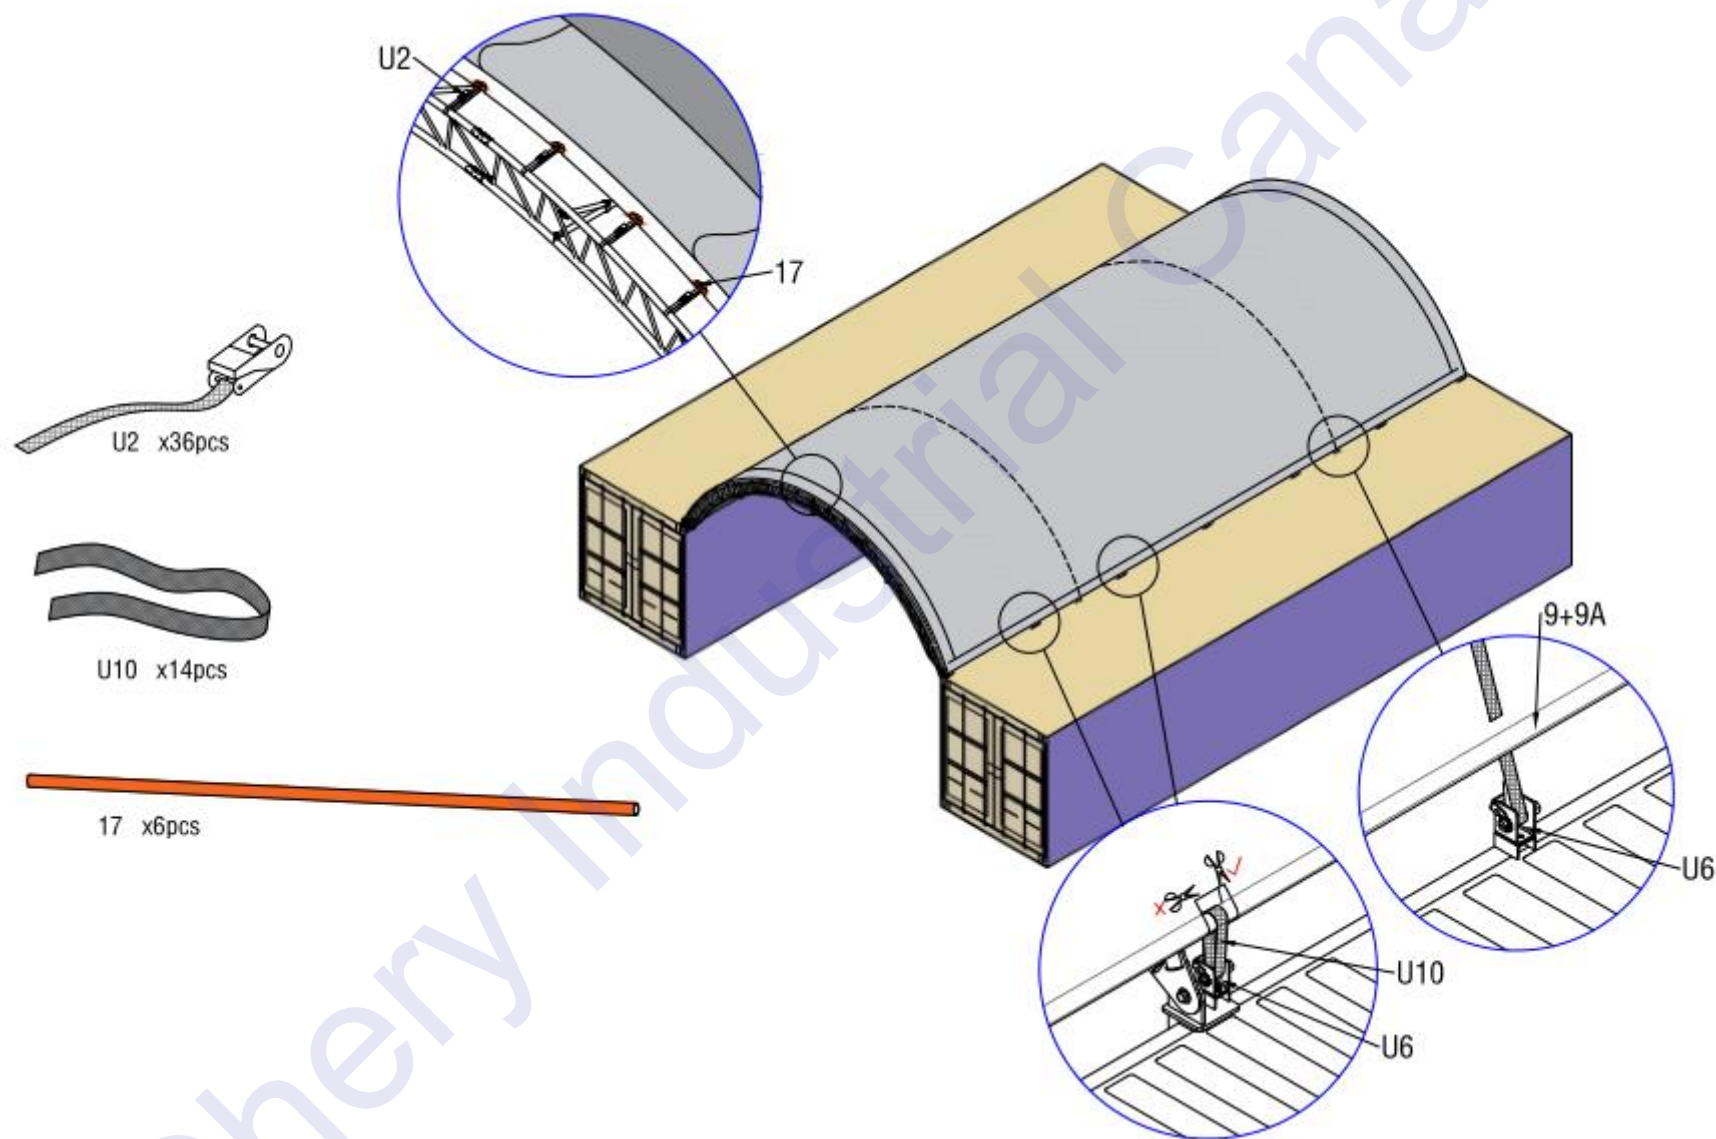

Figure 12
4. Insert the PPR Tube (Part no.17)into the end of roof cover by using small ratchet with straps(Part no.U2)to the arch as Figure 12 shows.Then cut the lower tension cover pocket according to the base plate location(**Please note the Cutting direction,the cutting should be Perpendicular to the cover pocket as the Figure 12 shows**). Insert the nylon straps (Part no.U10)into the winch ,drive the ratchet straps lashing winch forth and back and then roof cover is tightened.The roof cover tightening should be properly tightened and not too tight.